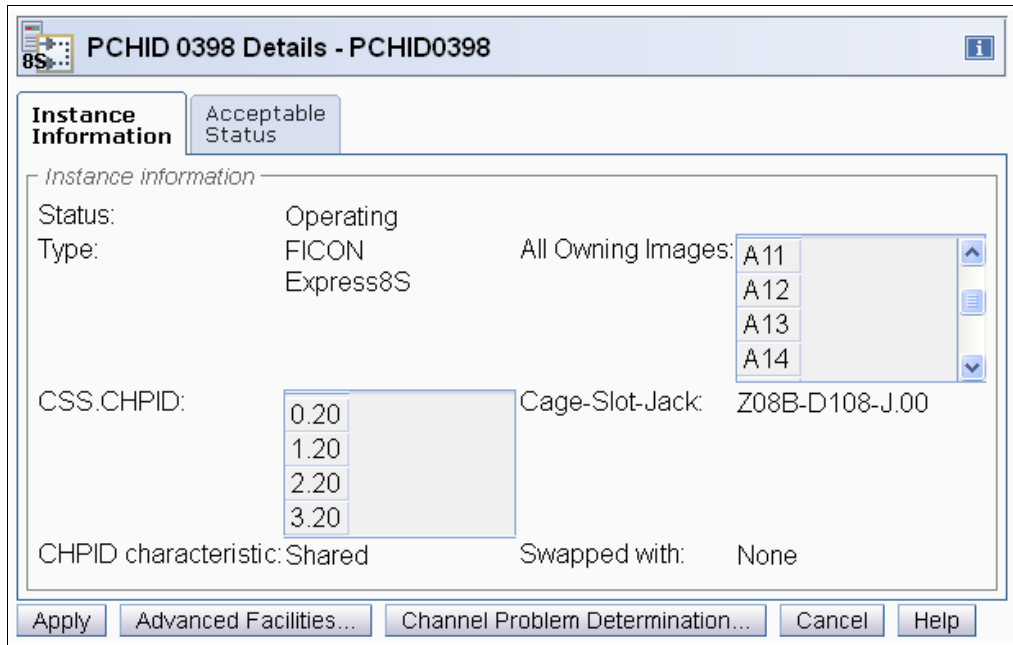

Figure 5-41 HMC PCHID details for 398
Display the list of channels installed on the CPC. Search the list for PCHID (398) and double-click the PCHID icon, which displays the PCHID details panel, as shown in Figure 5-41 on page 150.